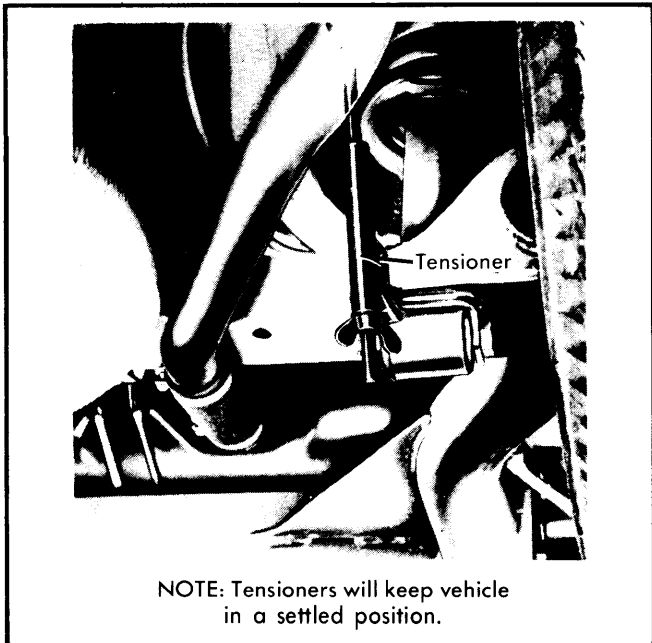

Fig. 2 Tensioner Position on Scirocco (Dasher Tensioner is Mounted With Wing Nut on Top)
2) Measure distance from top of tire rim to lower edge of fender lip (both sides). Attach spring tensioners to hold vehicle in settled position. See Fig. 2. Raise and support vehicle, check measurement and adjust tensioners if required. Connect a 1500 psi (110 kg/cm²) gauge to left front caliper and another gauge to right rear wheel cylinder. Bleed gauges.